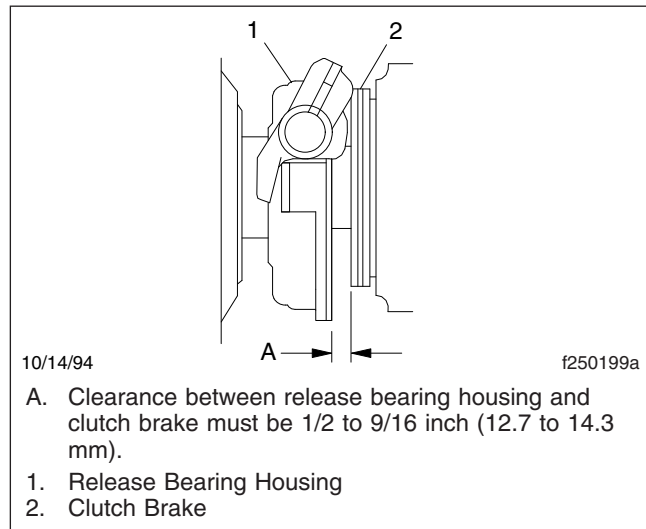

Fig. 10, Release Bearing Travel Measurement
3. Measure the release bearing travel. See **Fig. 10** for the correct dimension to measure. Using both ends of the release bearing travel tool, check this gap as follows: